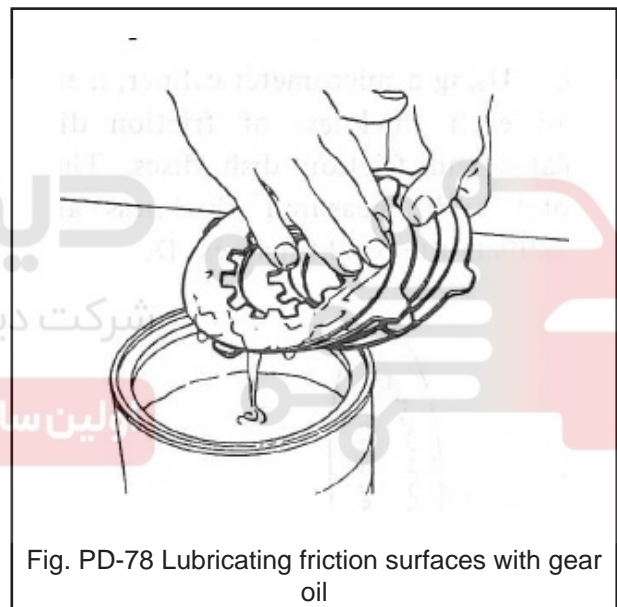

Fig. PD-78 Lubricating friction surfaces with gear oil
1. Apply the specified gear oil to all friction surfaces as shown in Fig. PD-78.